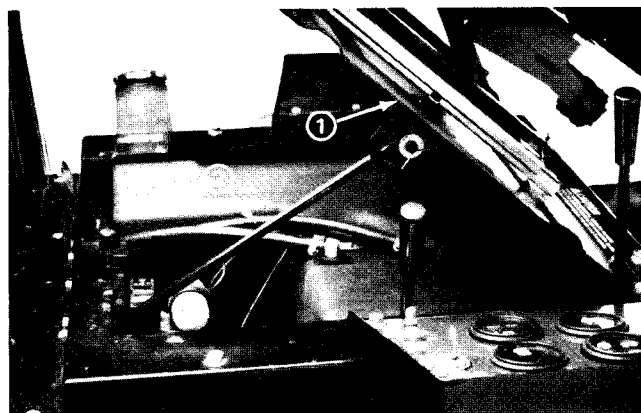

Figure 61
3. Lift the seat mounting plate by removing the hair pin and pulling back on the locking spring flap. Disconnect the support rod from the seat plate and carefully lower the seat plate (Fig. 61).